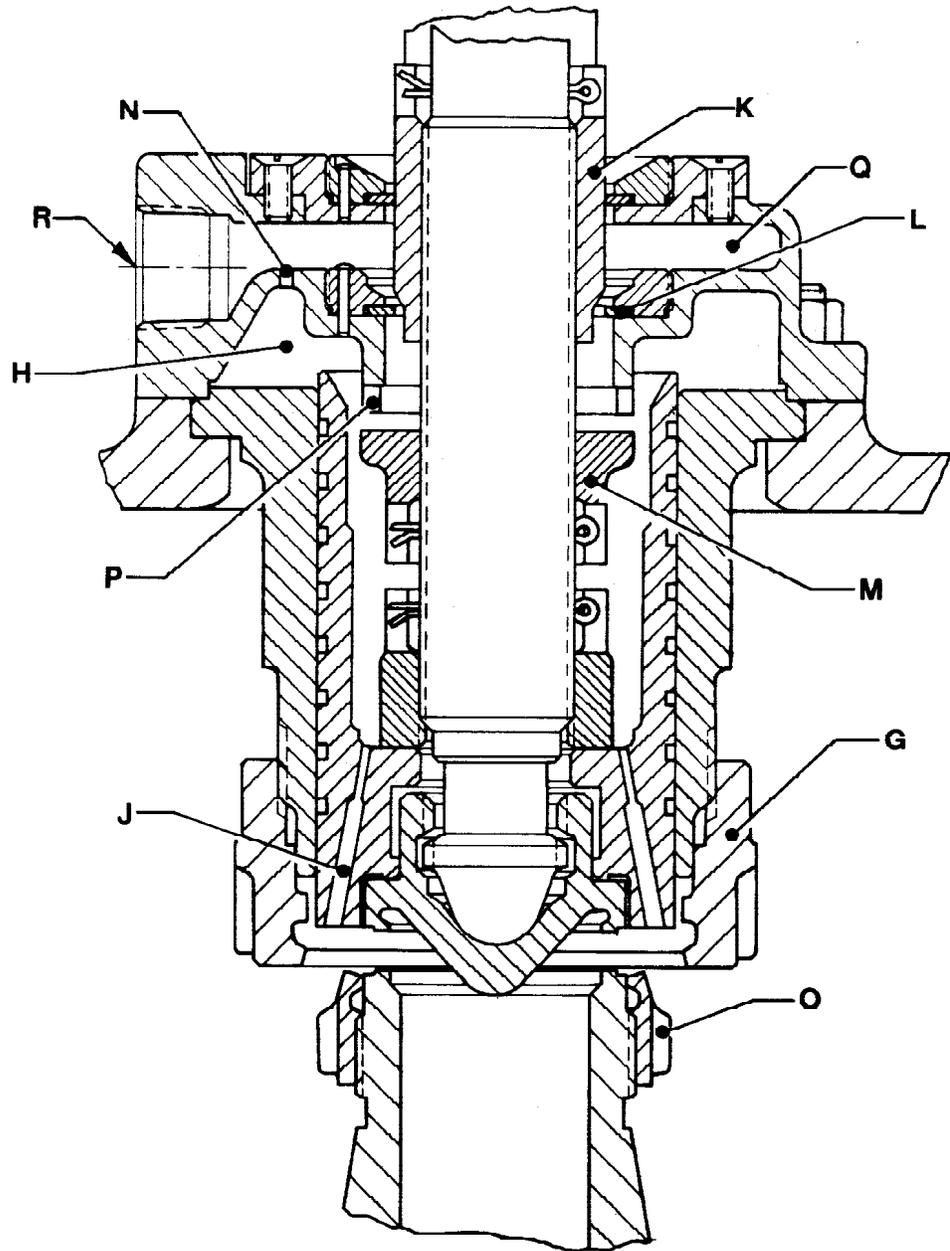

FIGURE 3
When closing, as in Figure 3 (below), the spindle overlap collar (K) is adjusted so that it moves down into the floating washer (L), thereby effectively reducing the escape of steam from chamber (H).